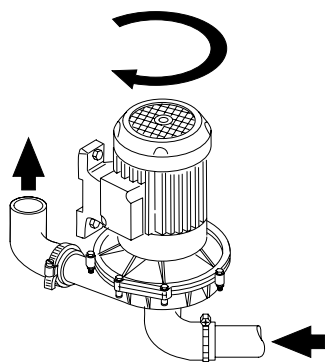

fig. 2
- 2) Switch the dishwasher on by pressing the key (B) (see par. 2). The relative green LED lights up.
- 5) Check correct wash pump rotation because, in being three-phase, it could turn in the opposite direction. In addition to the arrow, this can be noticed by excessive noise during the washing cycle (see fig. 2).
N.B.: If the cock is closed or the filling time is too long, the dishwasher may go on tank filling time-out (programming parameter (17)) indicating fault code (7) (see chap. 21.2)